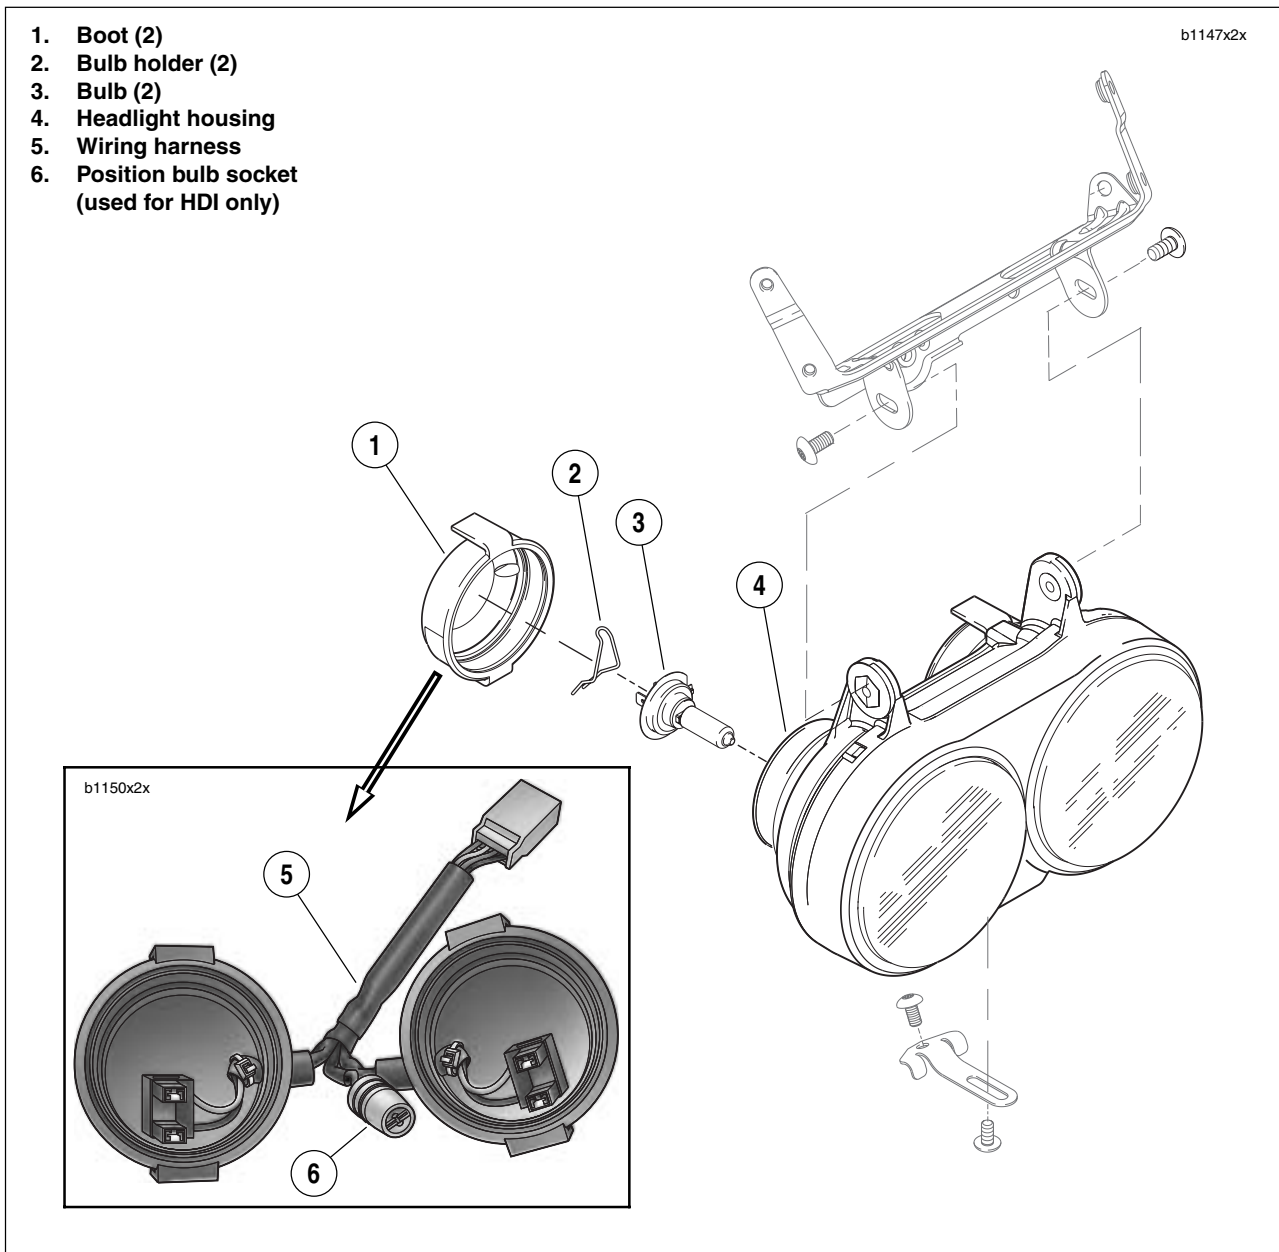

Figure 2-104. Headlight Assembly
1. See Figure 2-104. Remove rubber boots (1) from rear of headlight housing.
2. Disconnect wiring harness (5) from headlight bulbs (3) and remove along with position bulb socket (6).
3. Remove bulb holders (2).
4. Remove headlight bulbs (3) from back of headlight housing (4).
1. See Figure 2-104. Align and install headlight bulbs (3) into back of headlight housing (4).